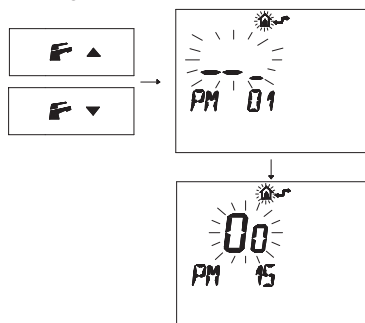

Fig. 7.16
- Press buttons or to display the "PM15" program that enables the external probe (Fig. 7.16).